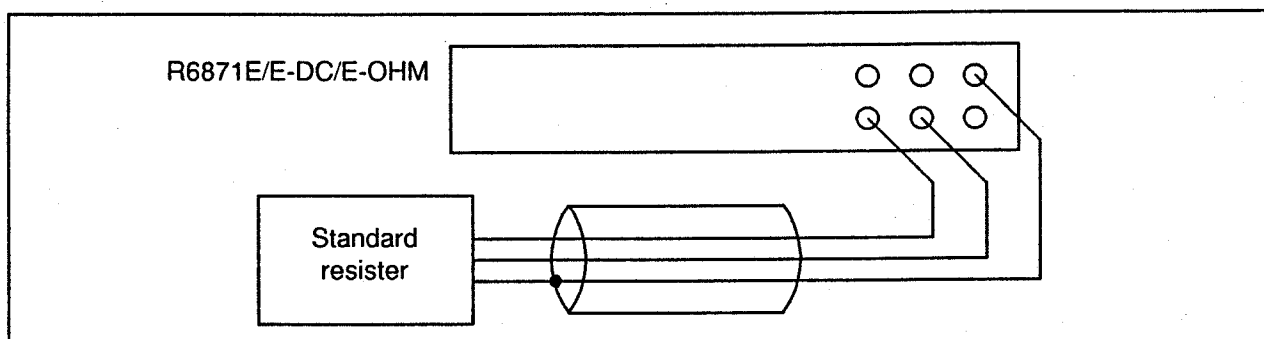

Figure 6-7 0-point Calibration of 2-wire Resistance Measurement
- (3) As shown in Figure 6-7, connect the attached cable (MI-37) between the HI-LO terminals of the lower input terminal.
- (4) Calibration of all the 2-wire resistance range is executed at once by performing 0-point calibration of a single range.